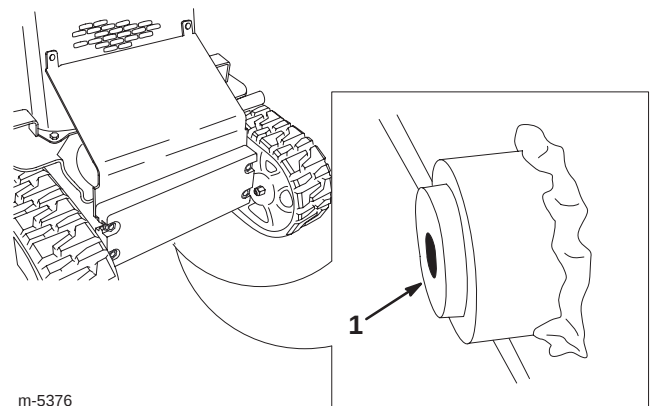

Figure 45
6. Place a large drain pan (capable of holding 15 US gallons) under the drain plug on the front of the traction unit (Fig. 45).
7. Remove the drain plug and allow the oil to drain into the pan (Fig. 45).